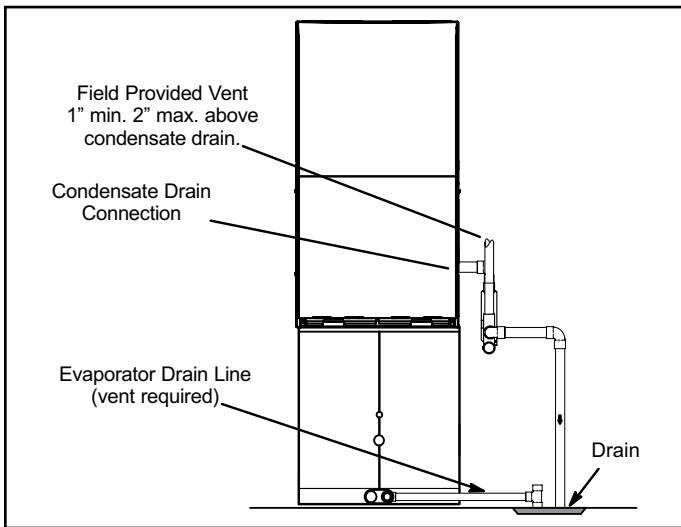
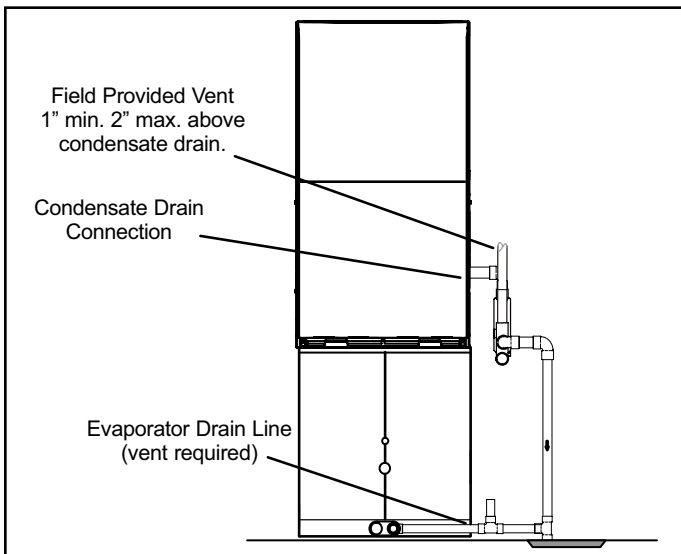

Figure 41. Unit with Cooling Coil Using Separate Drain
Figure 42. Evaporator Coil Using a Common Drain
5. Figure 41 shows the furnace and evaporator coil using a separate drain. If necessary the condensate line from the furnace and evaporator coil can drain together. See Figure 42.